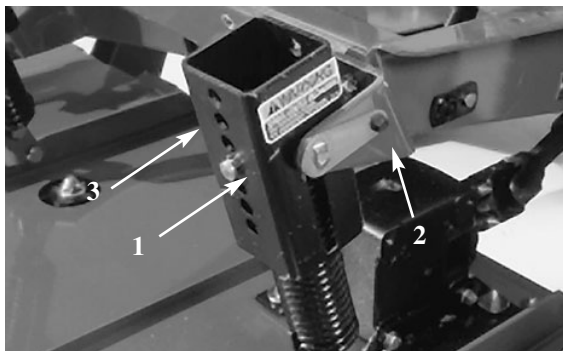

Figure 12
2. Disconnect the counterbalance from the traction unit, remove the lockpins from the brackets, separate the spring tension assemblies from the brackets and lay them down on the deck. Loosely secure the lockpins to the brackets to prevent losing them (Fig. 12).